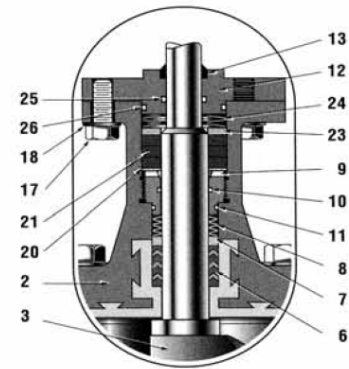

Figure 4
1. Remove screws (17) and washers (18) and take off the actuator connecting flange (12). In the case of models with safety packing (Figure 4), remove the disk springs (24), upper packing box ring (23), packing rings (21) and base ring (20).
- If the control valve is equipped with a safety packing, insert the base ring (20), three packing rings (21), upper packing box ring (23) and three disk springs (24) in accordance with Figure 4.
9. Insert the wiper ring (13) into the actuator connecting flange (12). When the actuator connecting flange has the grooves option, the relevant O-rings (25 inner, 26 outer) are to be inserted.
10. Slide the actuator connecting flange over the plug shaft and secure it to the bonnet with screws (17) and washers (18).
⁽¹⁾ Refer to Figure 4